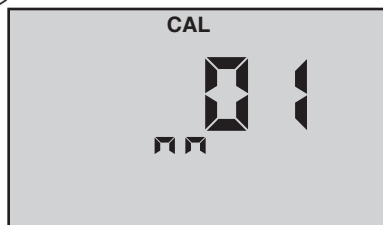

Figure 11
Example shown in Figure 11, 16:05 equals 4:05 PM.
7. Press  to accept the change (new month), (see Figure 11).